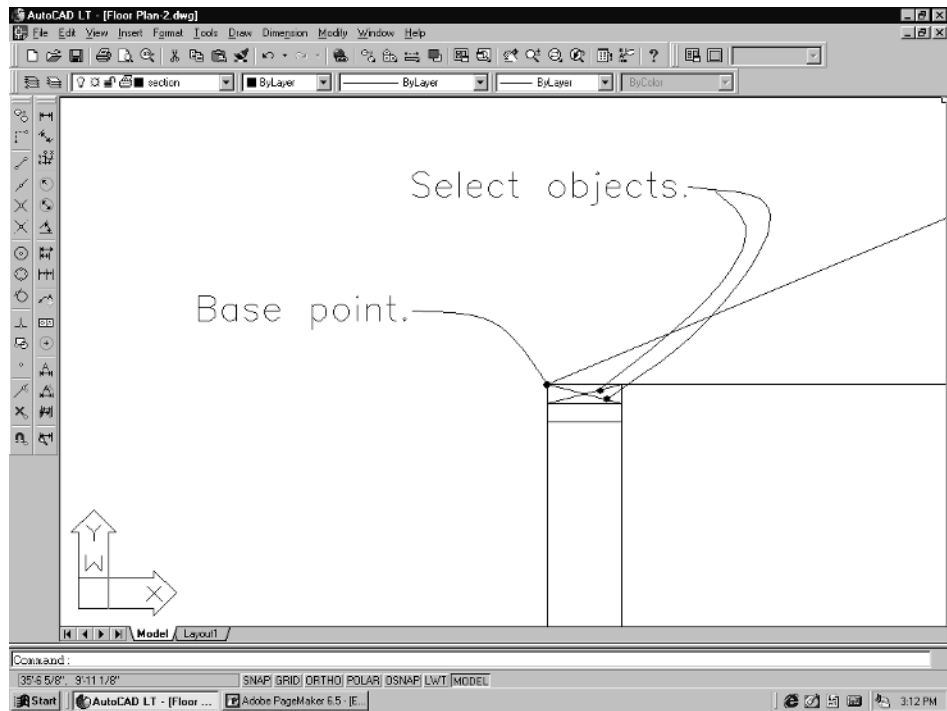
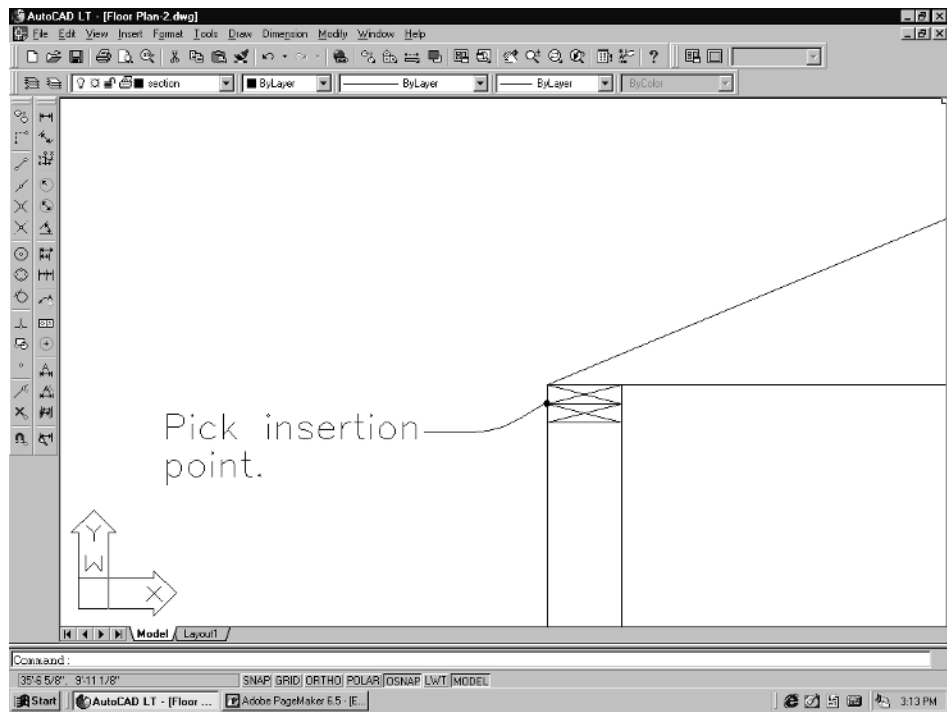

Figure 3-45
Figure 3-46
9. Next, pick **Copy** and pick the two X lines, then hit **Enter**. Type **M** (for Multiple) and **Enter**. Pick one of the endpoints of the X line as the first base point, as shown in Figure 3-45. Now start picking insertion points for each of the other plates where you want these Xs copied. See Figure 3-46.